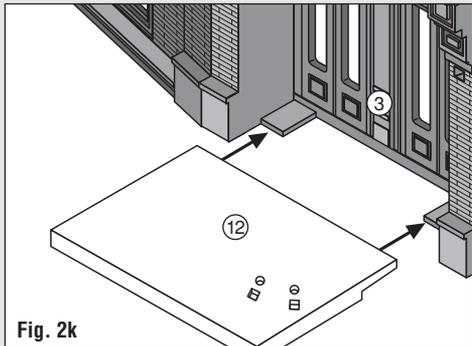

Fig. 2k
- Slide Large Entry Step ⑫ into place on Wall ③ (Fig. 2k). Apply glue along seams on underside of building.